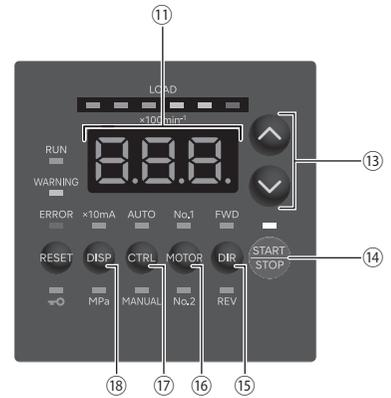

Fig. 41
17 - 1 Select Control Mode (MANUAL / AUTO). (Select the Control Button (CTRL) ⑰ of the Fig. 41.)
- (1) Using the Control Button (CTRL) ⑰ you can select between Manual (Front panel control) or Auto (External Signal Source) modes. External Signal Source can be used to control Motor Start / Stop, Rotation Direction, Motor Speed etc. From an external control source (CNC).
- (2) When operating using the button on the Control Panel ②, push the Control Button (CTRL) ⑰ to select MANUAL. When operating from an External Signal Source, push the Control Button (CTRL) ⑰ to select AUTO.
- (1) Set Motor Rotating Direction (Set the Rotation Direction Button (DIR) ⑮ of the Fig. 41.)
- (2) Select the motor (Use the Motor Selection Button (MOTOR) ⑯ . of Fig. 41.)
- (3) Set 500 min^{-1} (rpm) Centering Rotation (Set the Motor Speed Adjustment Button (\blacktriangle , \blacktriangledown) ⑬ of the Fig. 41.)
- To select 5 (500 min^{-1} (rpm)), push the Motor Speed Adjustment Button (\blacktriangle , \blacktriangledown) ⑬ . When controlling motor speed from 1,000 min^{-1} (rpm) to 500 min^{-1} (rpm) or from 500 min^{-1} (rpm) to 1,000 min^{-1} (rpm), stop the motor spindle prior to changing speed.
- (4) Motor Start / Stop (Motor Start / Stop by pushing the START / STOP Button (START / STOP) ⑭ of the Fig. 41.)
- (5) Setting Motor Speed (Set the Motor Speed Adjustment Button (\blacktriangle , \blacktriangledown) ⑬ of the Fig. 41.)
(5) Setting the Motor Speed
Setting parameter $\boxed{P \ 2}$ to ON allows the motor speed to be adjusted in Auto Mode using the Motor Speed Adjustment Button (\blacktriangle , \blacktriangledown) ③ of the Fig. 41.